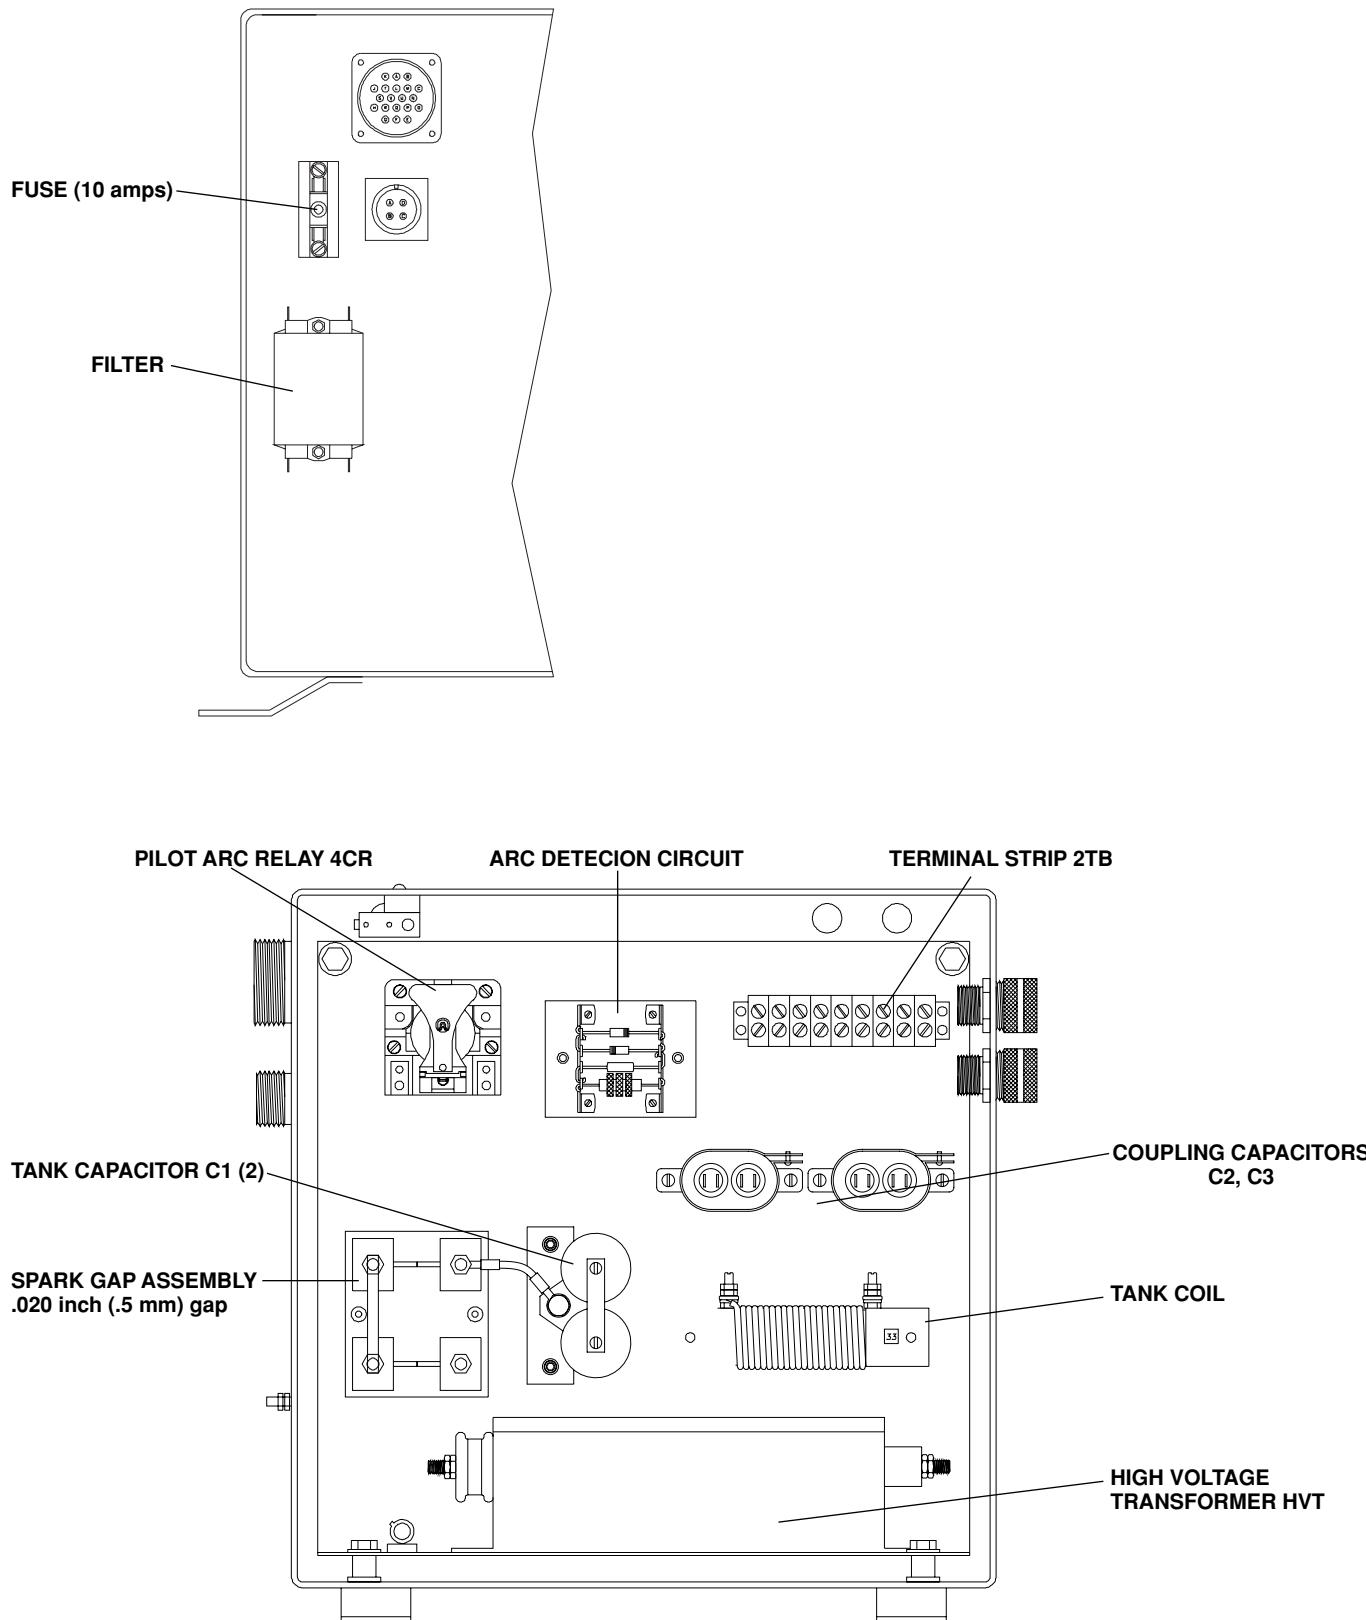

Figure 6 High Frequency Generator
- a. Disable High Voltage Transformer (HVT) by disconnecting its primary wires. See figure 6 for location of HVT.